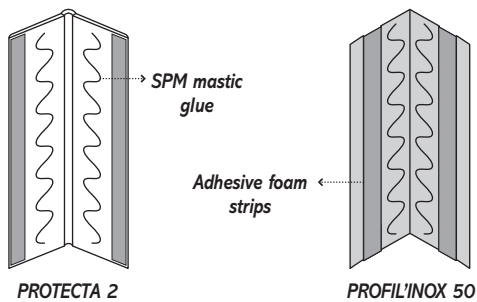

fig.1
- Calculate the length of the aluminium core to be cut while deducting the dimensions of the end-caps from the overall length. The end-caps may be placed on the top and bottom of the protectors (fig.1).
- Apply the SPM mastic glue to the surface of the profile as shown in the drawing below (fig.1).